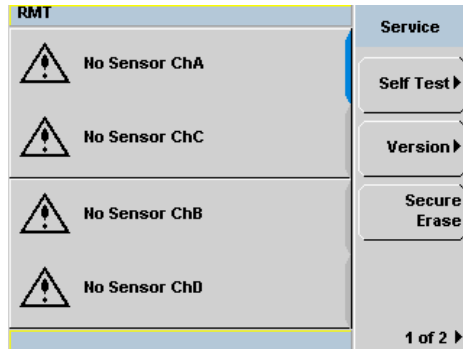

Figure 3-57 Secure Erase
- 1 Press **System**, **1 of 2** and select **Service**. In the **Service** menu, select **Secure Erase** (see Figure 3-57).